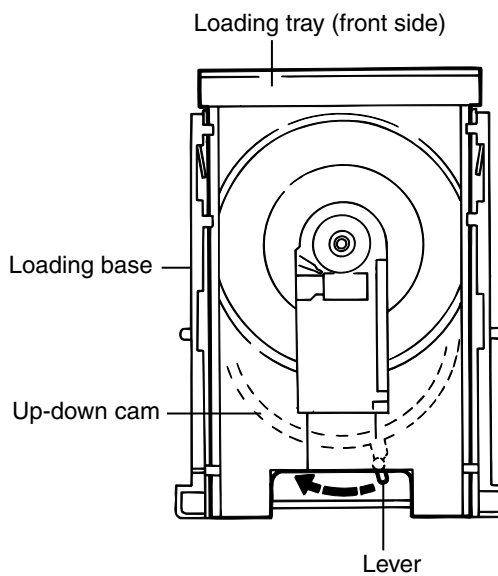

Fig.2
■ Removing the loading tray (See Fig.2~4)
1. Turn the up-down cam lever clockwise (in the direction of the arrow in Fig.2) to lower the position of the mechanism.